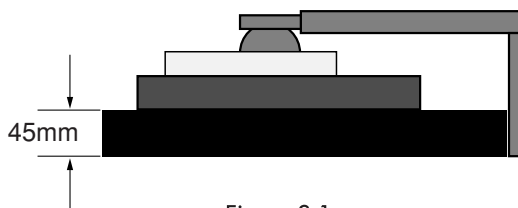

Figure S.1
3. Place monitor face down on a non-abrasive surface. (Place the screen on a 45 mm / 1.8 inch platform so that the stand is parallel with the surface.) (**Figure S.1**)